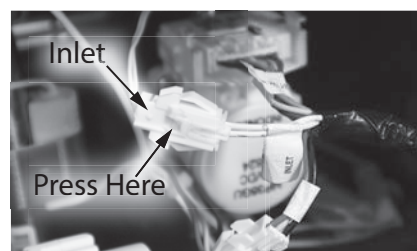

Figure 56 - Inlet harness disconnect instructions
- 22** To disconnect the "INLET" harness, reference Figure 56.